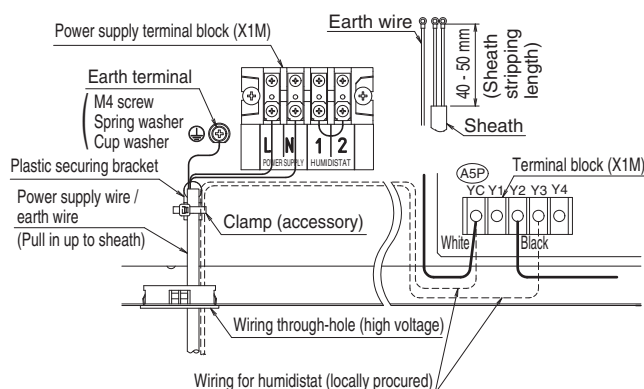

Fig. 17
- Pull the power supply wiring together with the earth wire through the wiring through-hole (high voltage) into the control box. Connect the power supply wires to the power terminal block (X1M) [L, N] and the earth wire to the earth terminal, and then securely fasten them using clamps (accessory). (Refer to Fig. 17)
- (3) Secure together with the power supply wiring using clamps. (Refer to Fig. 17)